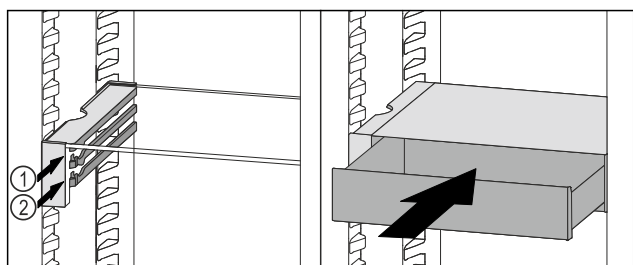

Fig. 125
- ▶ Place the VarioSafe drawer behind the stoppers on desired rib Fig. 125 (1) or Fig. 125 (2).